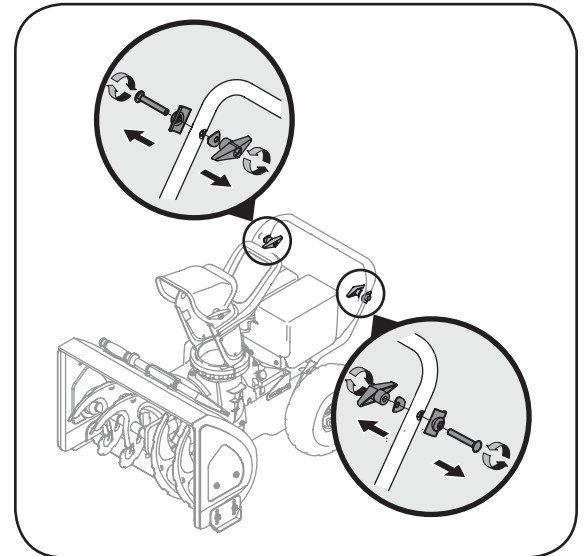

Figure 2
1. Loosen and remove the wing knob, saddle washer, handle tab and carriage bolt on each side of the lower handle. See Figure 2.